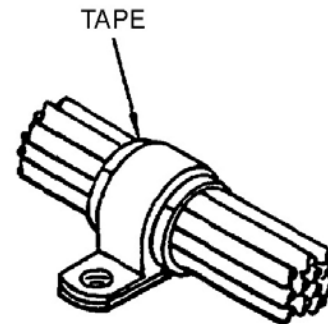

Figure 3. Tape Support
e. Tighten the clamps at the nearest mating locations. The bundle or harness should not be moveable through the clamp. If the bundle or harness is loose, wrap with red or black non-adhesive, self-bonding tape until sufficiently built up to permit the clamp to secure the wire bundle or coaxial cable, A-A-59163 TYPE II, NSN 5970-00-955-9976 or NSN5970-00-955-9976 (Figure 3).